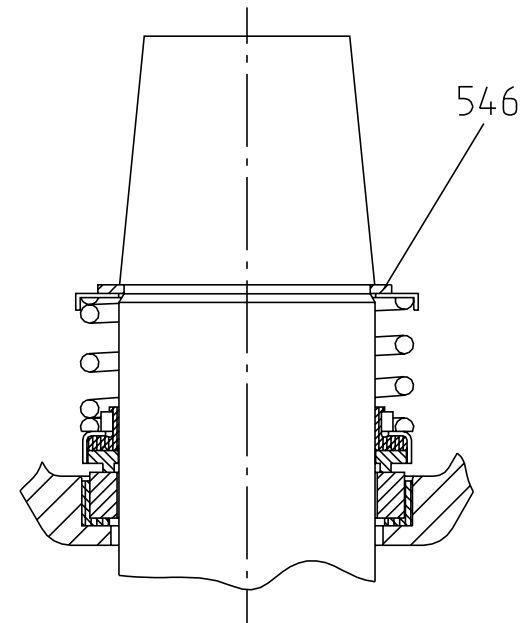

Fig. 13
3.3.1.1 REMOVAL OF PUMP SIDE MECHANICAL SEAL (515)
a) Exposed-spring seal - type "C" (Fig. 13)